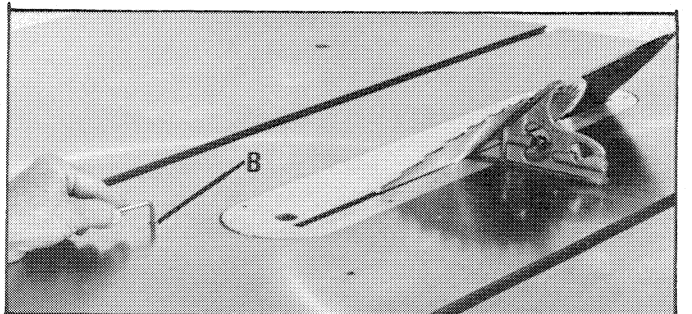

Fig. 34
4. Turn the blade tilting handwheel counterclockwise as far as it will go and check with a square to see if the blade is at a perfect 45 degree angle to the table, as shown in Fig. 34.
5. If the blade is not at 45 degrees to the table, back off set screw (B) Fig. 34, and turn the blade tilting handwheel until you are certain the blade is at 45 degrees to the table. Then tighten set screw (B) until it bottoms.